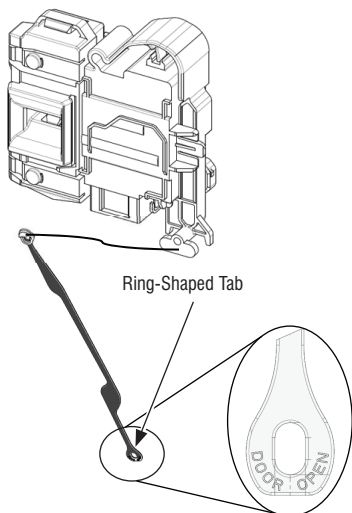

Figure 9 - Detail, Door Lock Assembly
3. Pull the ring-shaped tab protruding at the lower right corner of the washer (see Figure 9).